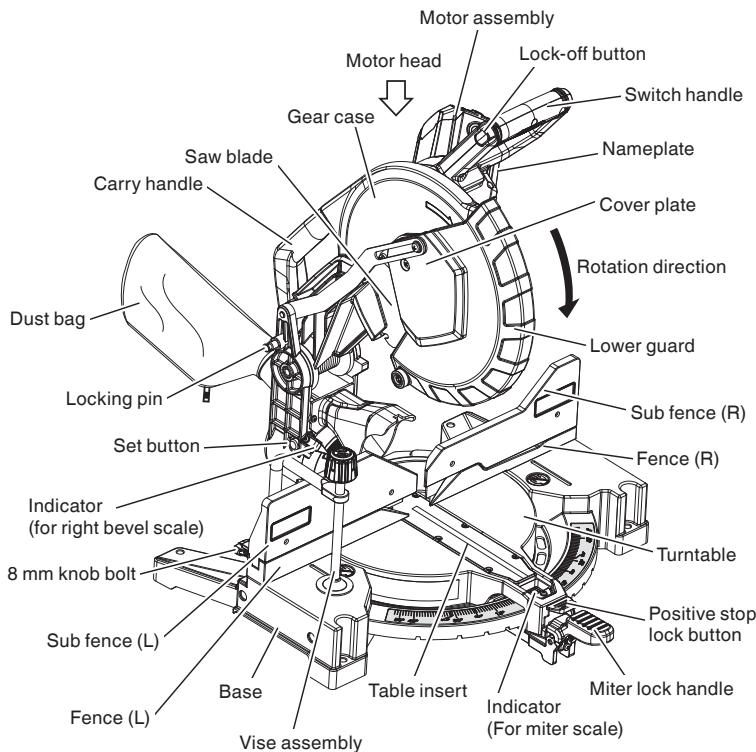
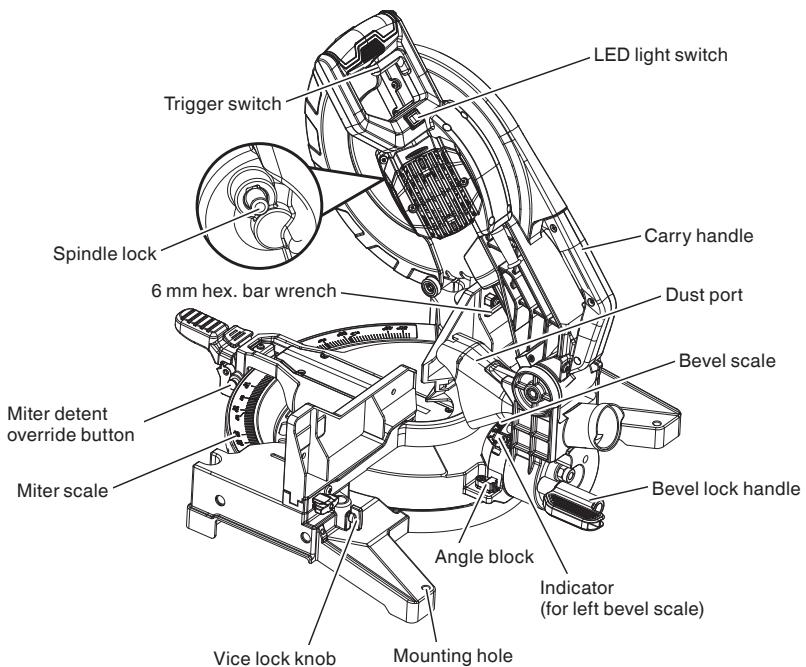

Fig. 1
Fig. 2
Attach the sub fence (L), dust bag and vise assembly as indicated in Fig. 1 and Fig. 2.
(Attach the vise assembly as shown in Fig. 1, Fig. 2 and Fig. 18.)
After installing the saw blade, confirm that the spindle lock has been returned to the released position before using the power tool (see Fig. 2).
**⚠ WARNING:** Please be aware of the reaction of the Motor Head (Fig. 1) when the brake is activated. Braking causes the Motor Head to jerk downward and the user should be prepared for this reaction, especially when the trigger switch is released before the blade is completely down. Failure to be familiar with, and prepared for, the operational characteristics of the tool may cause serious injury.